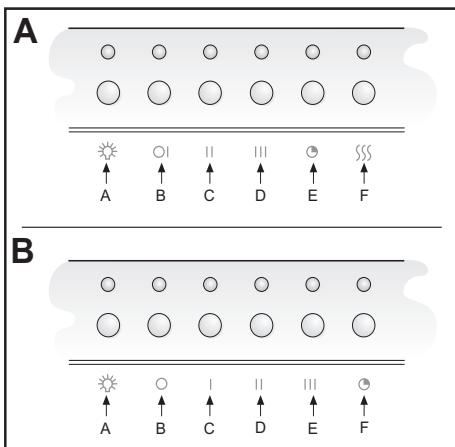

Fig.19
• **COMANDO: ELETTRONICA (Fig.19 A)**